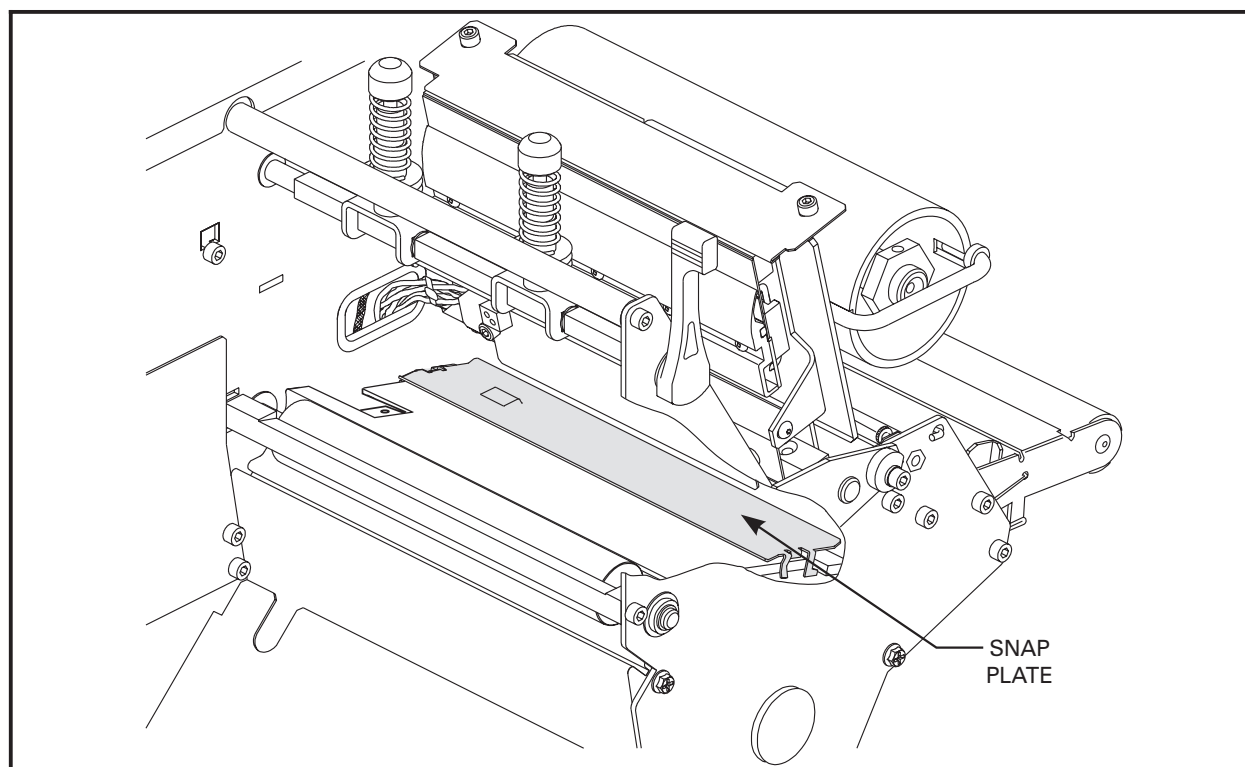

Figure 4.2 Typical Upper Media Guide Plate (Snap Plate)
5. Replace the Snap Plate by placing the back legs in the openings in the Main Media Guide while sliding it to the rear of the openings and snapping it down into position. Refer to Figure 4.2 below.